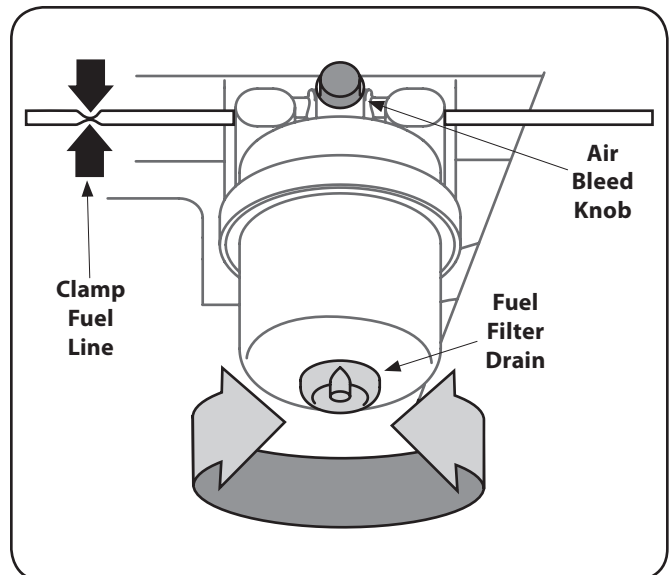

Figure 6-4
3. Turn the filter drain counterclockwise to open. Allow the water at the bottom of the filter to drain until only pure diesel fuel drains from the valve. See Fig. 6-4.
5. Slowly turn the air bleed knob counterclockwise until fuel begins to seeps out around the bleed knob. Turn air bleed knob clockwise to close. Refer to Fig. 6-4.
2. Clamp the fuel line just to the rear of the fuel filter. See Fig. 6-4.